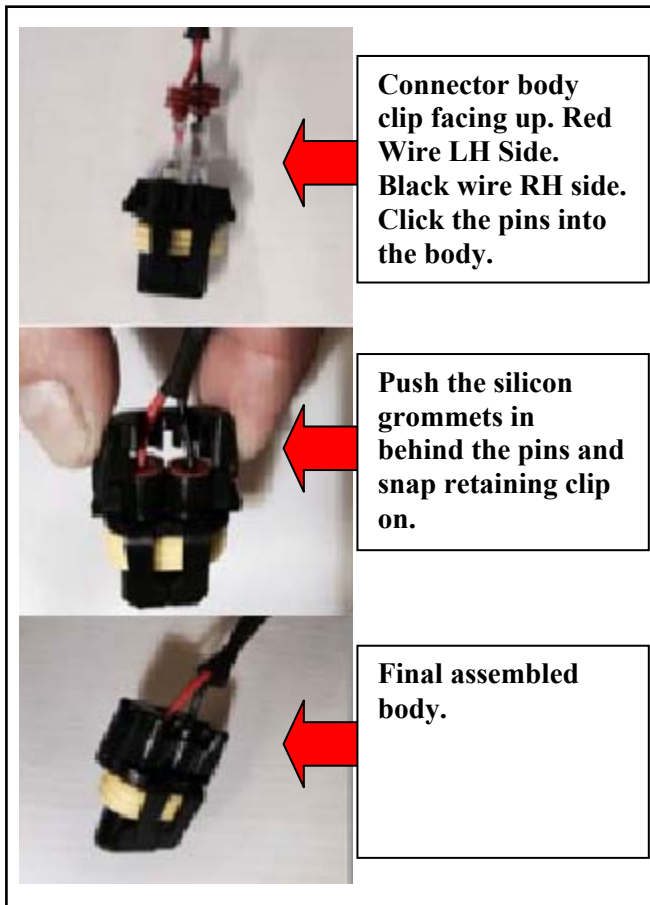

Figure 7
7. Insert the Bed Light LED assembly harness pins into the connector body & snap on the connector retaining clips. See Figure 7.